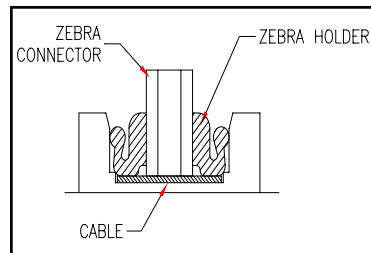

Figure 4 - Generator Zebra Strip
3. Place the generator Zebra strip and strip holder assembly over the generator cable, and press it into the recess. The hole in the Zebra strip holder must be positioned over the post in the dial ring. Be sure that the black Zebra strip holder is positioned as shown in Figure 4.